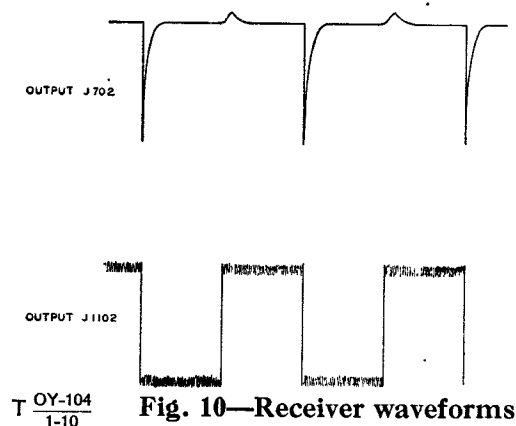

Fig. 10—Receiver waveforms at J702 and J1102
**NOTE:** The waveforms on the C.R.O. from J702 and J1102 should be as in Fig. 10, that from J702 being due to differentiation of the square wave through C725 and R717. The overall gain should be not less than that given in Table 25.